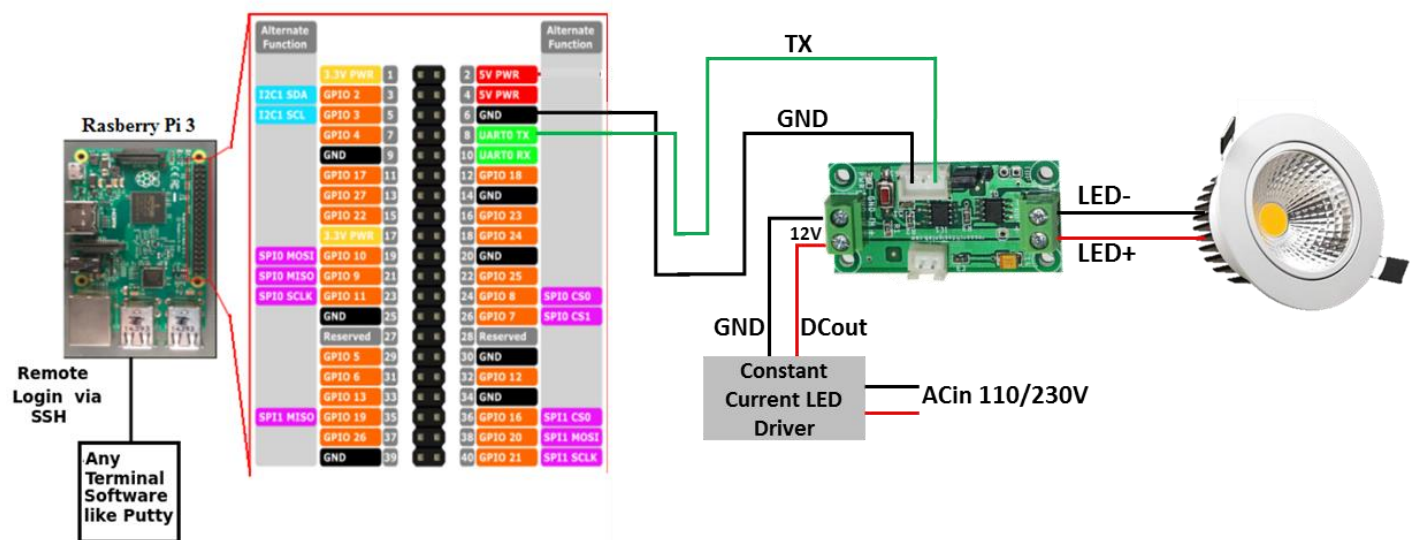
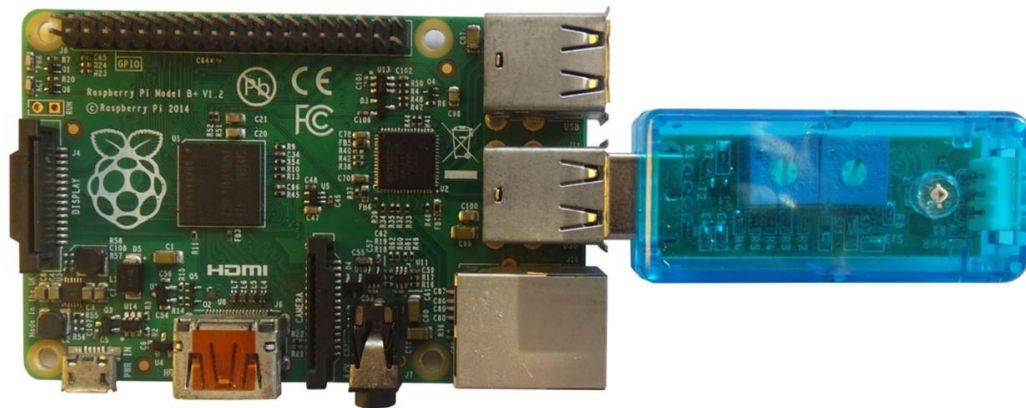
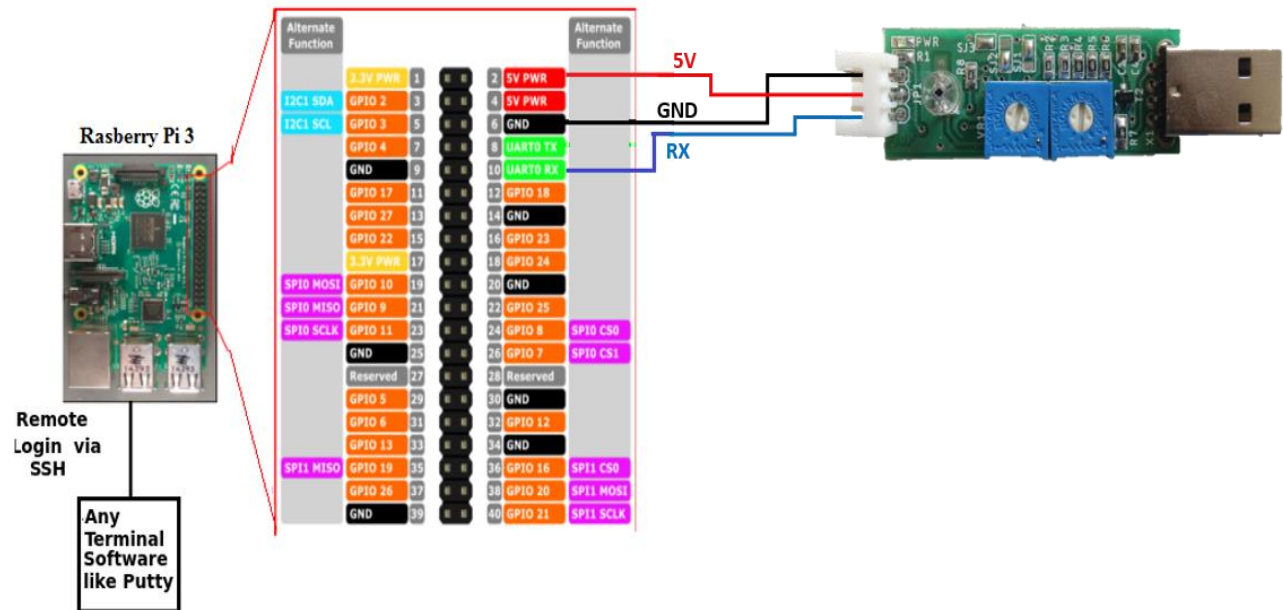

Fig. 11
Fig. 12
Fig. 13
By remote Login via SSH data can be sent from Raspberry Pi 3 to LiFi Nano transmitter. By using another Raspberry Pi the data can be received from LiFi Nano receiver. Fig. 11 shows the transmitter circuit connection for LiFi Nano with Raspberry Pi. And Fig. 12 and Fig. 13 shows the receiver circuit connection for LiFi Nano with Raspberry Pi.
- Interfacing using USB, as shown in Fig. 12
- Interfacing through Serial, as shown in Fig. 13